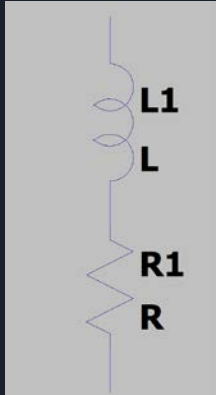

Figure 1.
- One simple model of motor would be a simple resistor + inductor design, as shown in figure 1. This model of motor considers that the motor not only has resistance, but also a “coil” of wire that operates as an electromagnet and offers a significant amount of inductance. While current flows, energy is stored in the form of a magnetic field. This DC motor model, while better than a simple resistive model, still ignores mechanical properties like inertia. Therefore, its simulation will poorly reflect real-world operation.